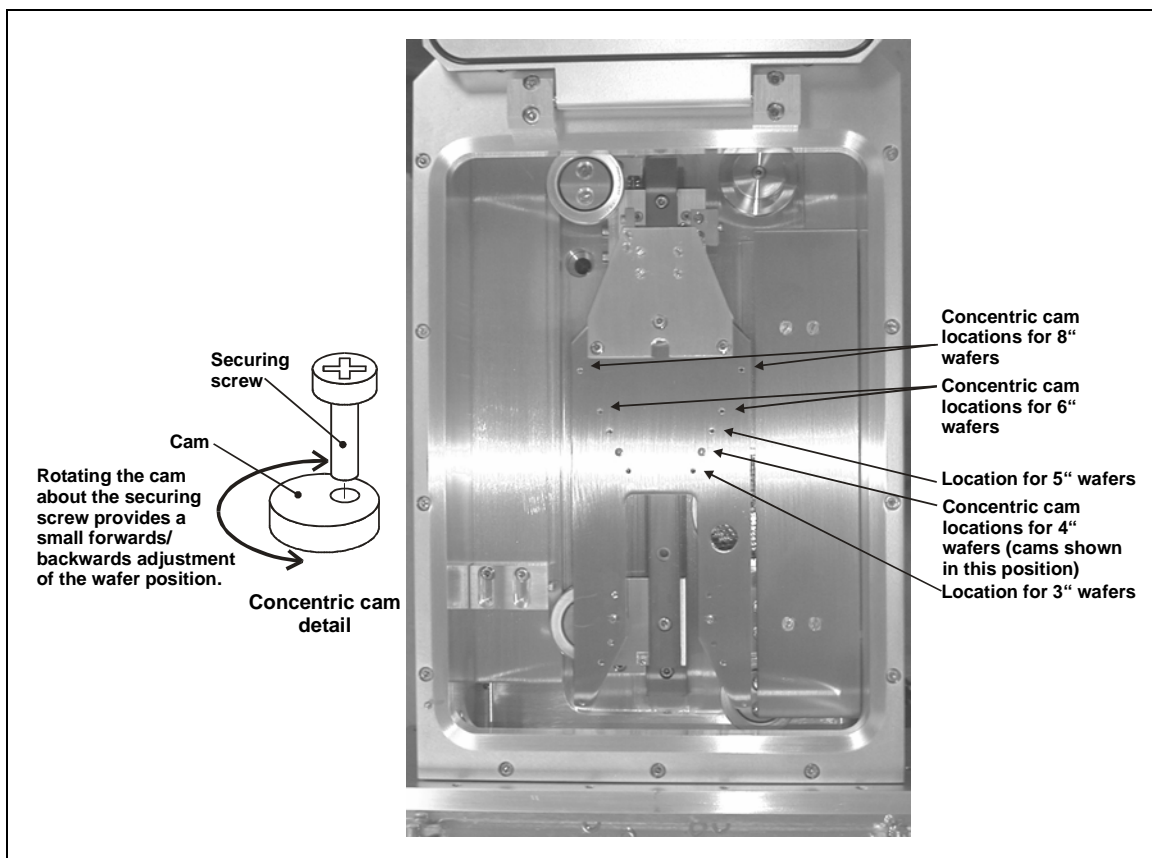

Fig 6.1: End effector wafer size adjustments
The automatic load lock end effector can accommodate wafer diameters of 3" to 8". This is achieved using a series of pairs of holes appropriately spaced for the different wafer sizes into which concentric cams are secured. See Fig 6.1.
- 3) Wearing powder-free gloves, remove both concentric cams/securing screws from the end effector, then fit them into the appropriate holes for the wafer size to be processed. See Fig 6.1.